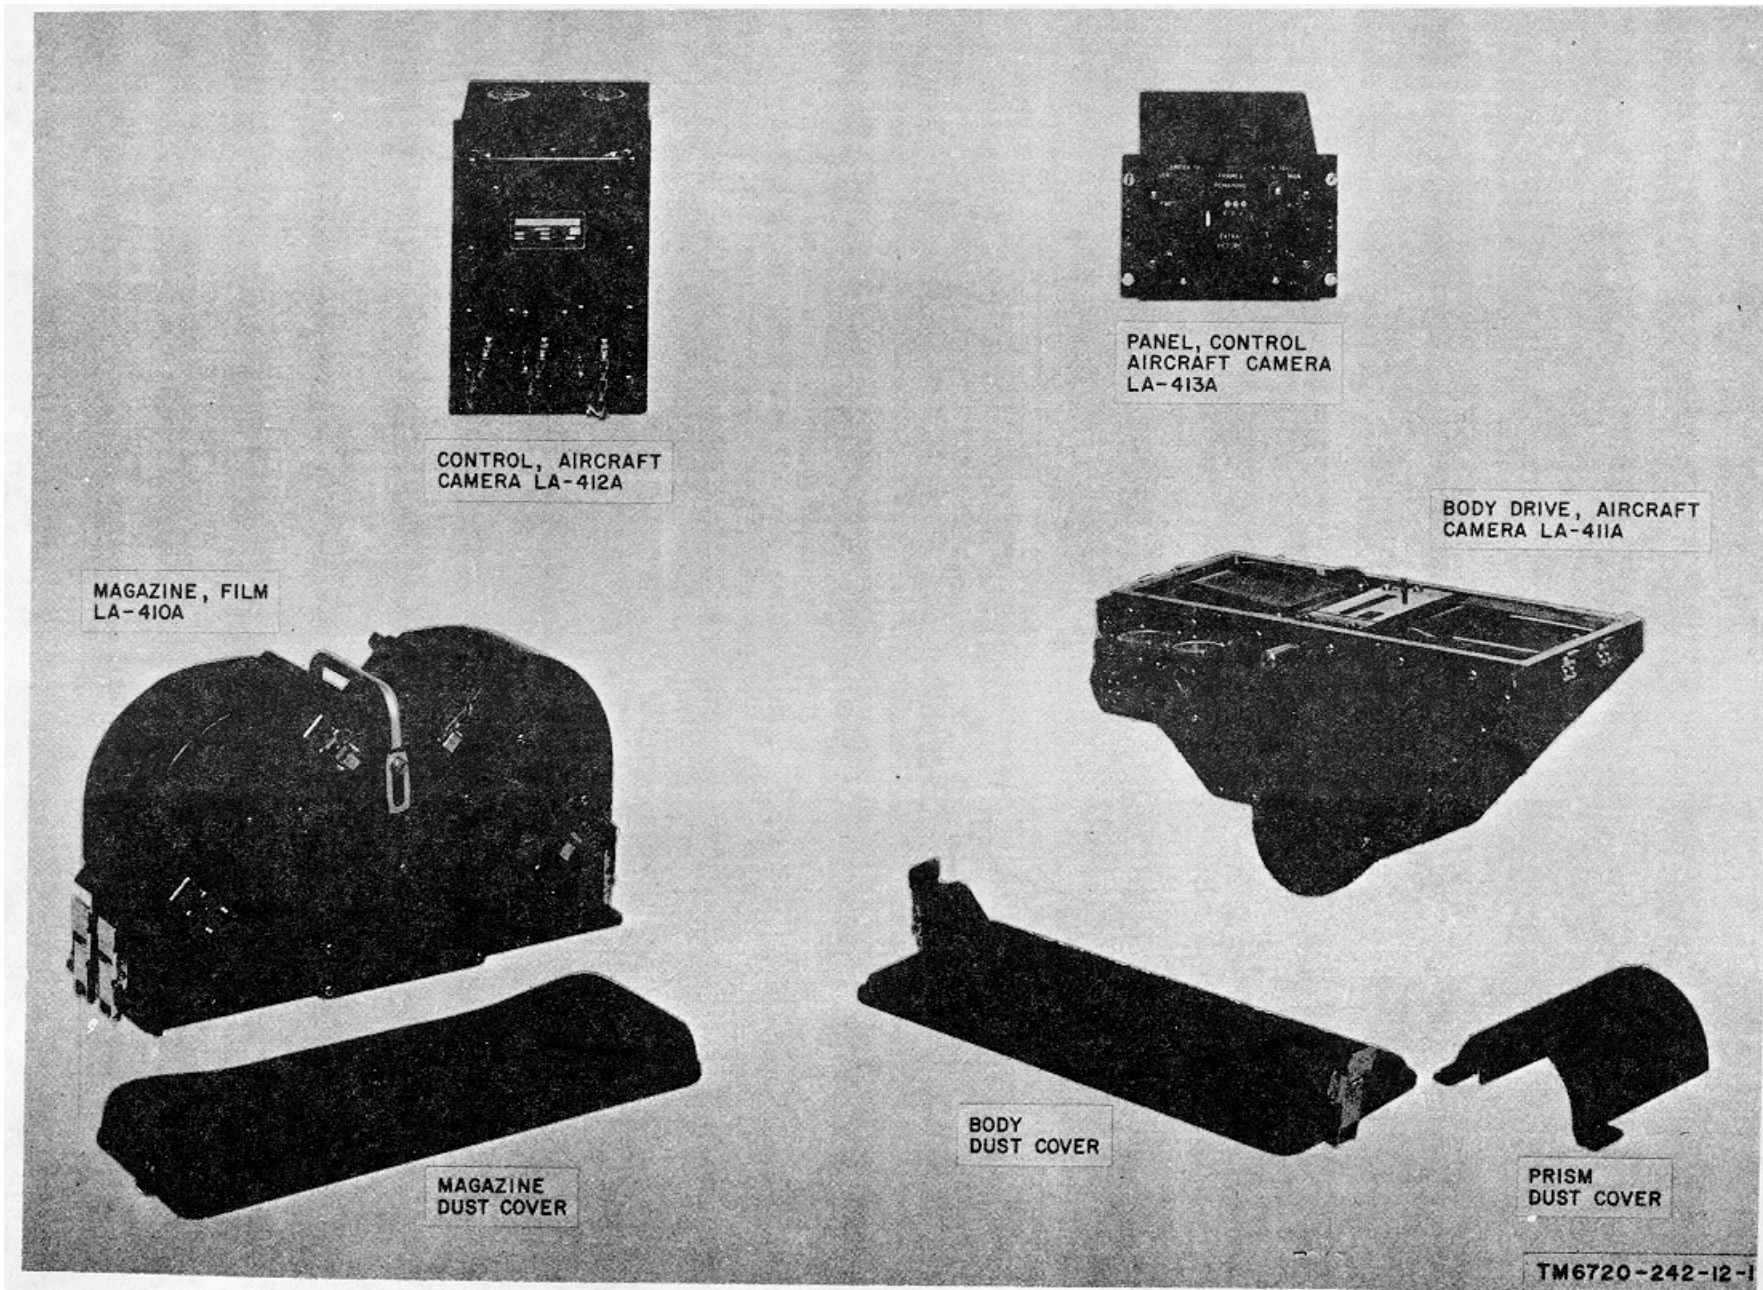

Figure 1-1. Camera, Still Picture KA-60C.
a. This manual describes Camera, Still Picture KA-60C (fig. 1-1) and covers its installation, threading, operation, and operator's and organizational maintenance. It includes operation under usual and unusual conditions, cleaning and inspection of the equipment, and replacement of parts available to operator and organizational maintenance.
(fig. 1-1)